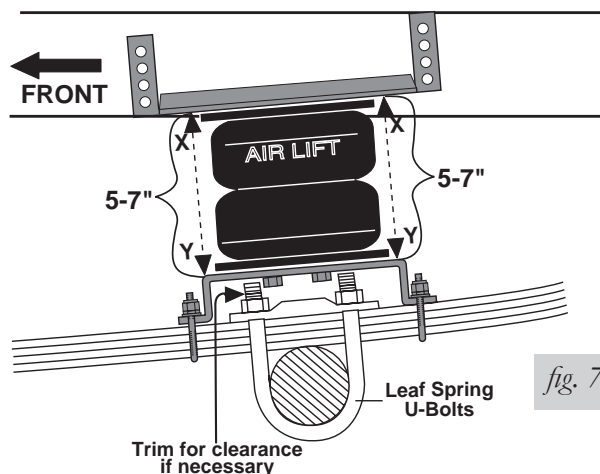

fig. 7
NOTE: Some vehicles may require the leaf spring U-bolts to be trimmed to allow the bottom bracket to fit properly (Fig. 7).
1. Align the assembly vertically and horizontally (Fig. 7). There must be sufficient clearance between the air springs, the frame, and the tire and brake drum at the maximum inflated diameter (7.0"). Tighten the upper bracket and mounting bolts for the bellows to 20 lb.-ft.